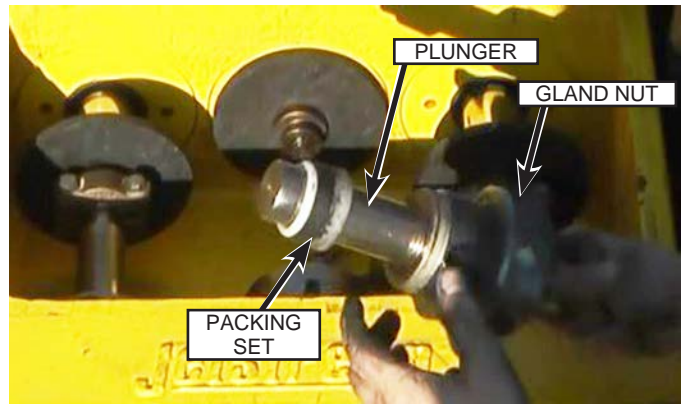

Fig. 68: Packing Removal
9. Remove the packing set (Fig. 68).